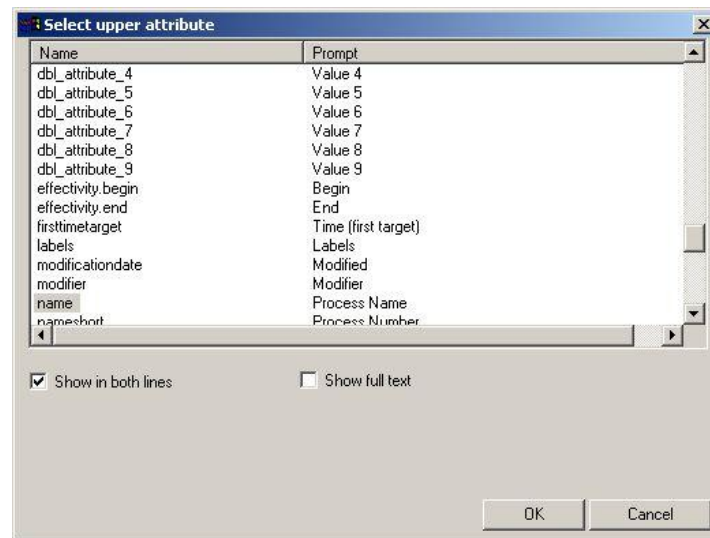

Figure 13: Dialog – Enable Name in Two Lines
- 3) To display the new name in two lines, enable the field **Show in both lines**. Please refer to the Figure 13.